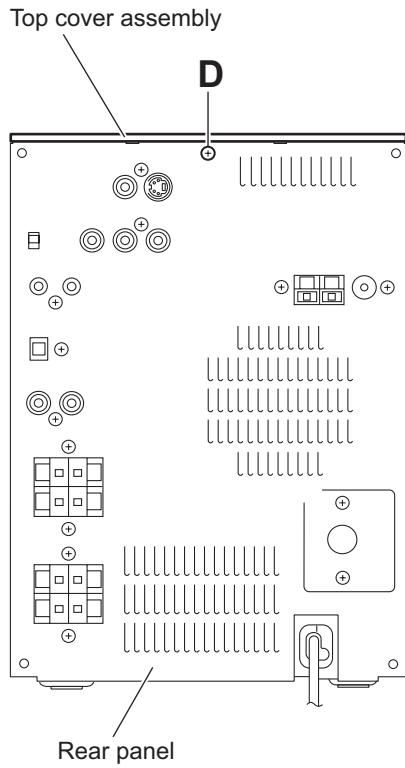

Fig.9
(See Figs.9 to 11)
- From the back side of the main body, remove the screw **D** attaching the top cover assembly to the rear panel. (See Fig.9.)